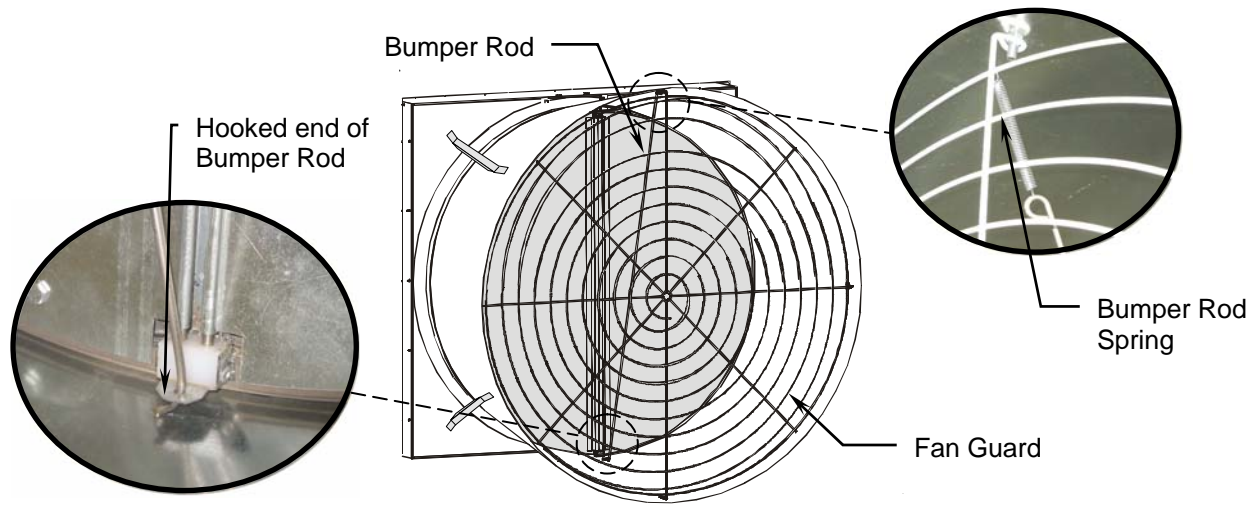

Figure 12 Fan Guard and Bumper Rod for 36" Fan
- 19. For the 36" Fan, install the Outside Fan Guard using four 3/8x1x20 bolts and nuts. See Figure 12.
- 20. For the 36" Fan, install the Bumper Rod as shown by attaching the hooped end of the Bumper Rod into the tab at the bottom of the Fan.. Attach the Bumper Rod Spring to the Bumper Rod and fasten the spring to the top ring of the Fan Guard. See Figure 12.